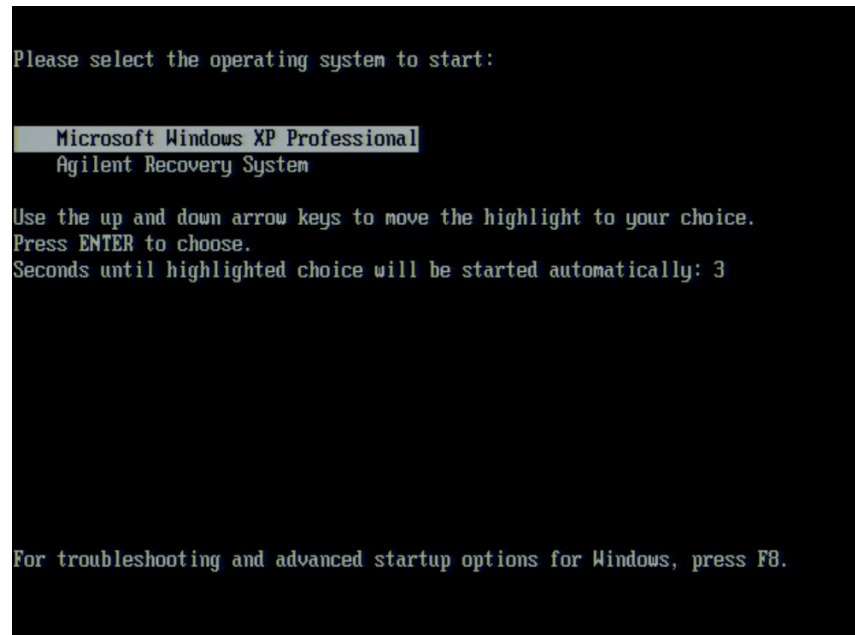

Figure 13 System start up screen in Windows Vista Business (2/2)
Step 3. The screen as shown in the **Figure 13** appears. Press [Enter].